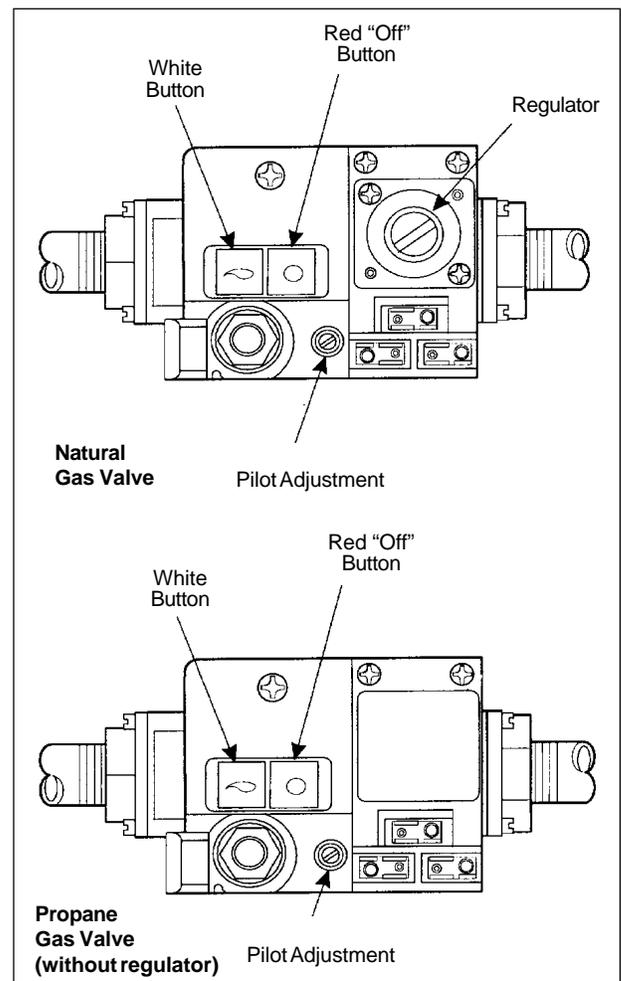

Figure 17. Gas control valves.
2. Press down and release the red button marked "O" on the gas control valve (see Figure 17).
5. Push in the white button on the gas control and keep it fully depressed (see Figure 17).
8. If the pilot cannot be established, check that the pilot burner flame correctly envelops the thermocouple tip by 10 to 13 mm. If not, check that the pilot adjustment screw on the gas control (see Figure 17) is fully unscrewed, then turn it one turn back in. Check that the thermocouple lead connections at the gas control and at the overheat thermostat are clean and secure. Repeat from step 5.